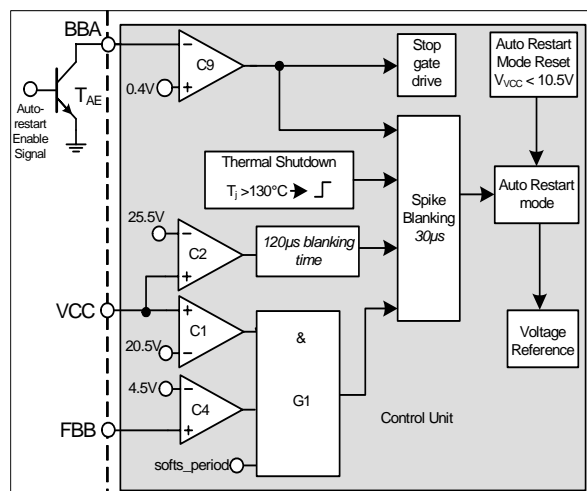

Figure 29 Vcc OVP, OTP, external protection enable
Vcc OVP (1) condition is when V_{VCC} voltage is $> 20.5V$, V_{FBB} voltage is $> 4.5V$ and during soft start period, the IC enters into odd skip Auto Restart Mode. This condition likely happens during start up at open loop fault. (Figure 29).
Vcc OVP (2) condition is when V_{VCC} voltage is $> 25.5V$, the IC enters into odd skip Auto Restart Mode (Figure 29).
The over temperature protection OTP is sensed inside the controller IC. The Thermal Shutdown block keeps on monitoring the junction temperature of the controller. After detecting a junction temperature higher than $130^{\circ}C$, the IC will enter into the non switch Auto Restart mode. The F3R80 has also implemented with a $50^{\circ}C$ hysteresis. That means the IC can only be recovered when the controller junction temperature is dropped $50^{\circ}C$ lower than the over temperature trigger point (Figure 29).
The external auto restart enable feature can provide a flexibility to a customer's self-defined protection feature. This function can be triggered by pulling down the V_{BBA} voltage to $< 0.4V$. Or it can simply trigger the base pin of an external transistor, T_{AE} at the BBA pin. When this function is enabled, it will enter into the non switch auto restart mode. The gate drive is stopped and there is no switching pulse before it is recovered (Figure 29).